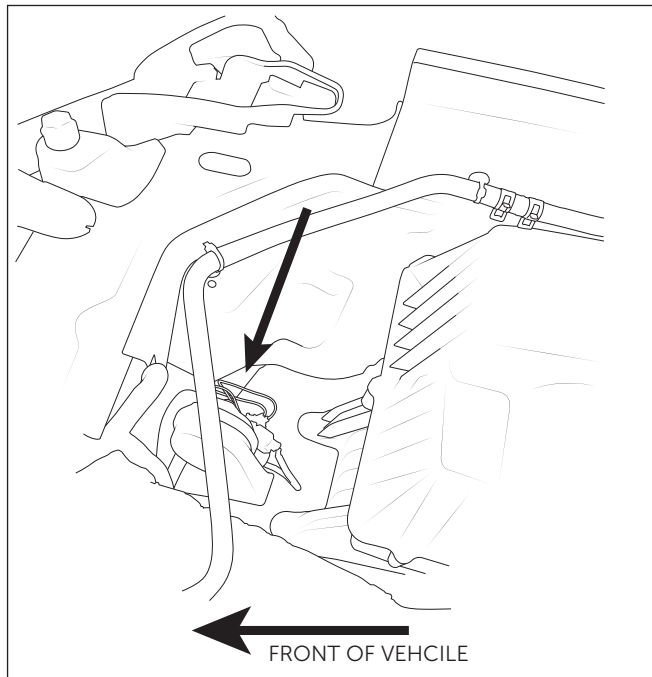

Figure 11
5. Route the mesh covered loom through the opening near the horn toward the underside of the vehicle (fig. 11).